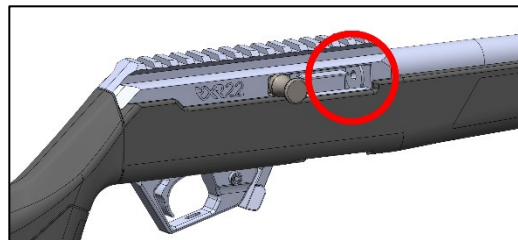

Figure 22
- Visually and physically check the barrel’s chamber to be sure it is clear of ammunition - Figure 22.